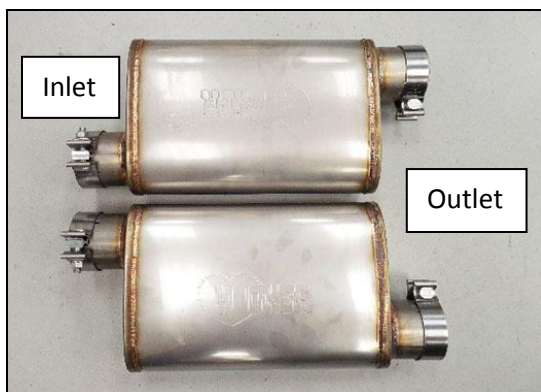

Figure 1
4. Install a 76mm band clamp on to the muffler inlet pipe with the clamp positioned with the bolt on top of the pipe and the bolt facing the outside of the car (**Figures 1 & 2**).
8. Install the supplied 76mm band clamp over each muffler or muffler delete outlet tube (bolt inside and nut down – **Figures 1 & 2**).